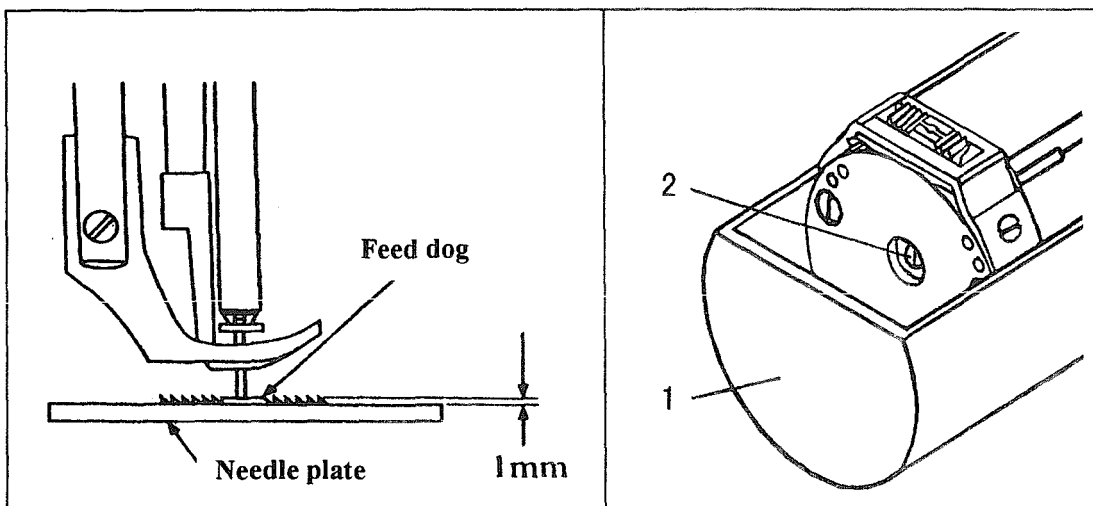

Fig.16
14、 ADJUSTING THE HEIGHT OF THE FEED DOG (Fig.16)